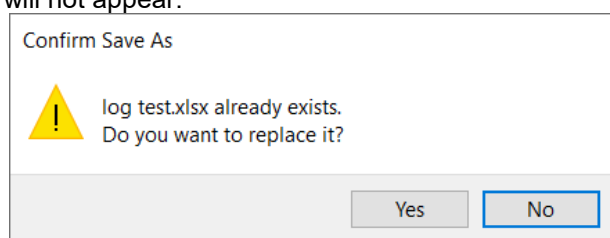

Figure 3.6: Confirm append date to an existing log file.
- From this data file, you can inspect the quality of three (or more) sets of detection efficiency calibration standards, by checking their overdispersion (OD) values.
- If you select an existing log file to append data into it, there will be a pop-up window asking you to “confirm save as”, as shown in Figure 3.6. Click “Yes” to append data. If the file is a new file, this pop-up window will not appear.